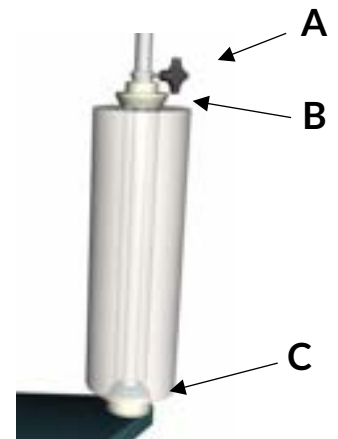

Fig. 3-4
Step 1 - Loosen fastening screw "A" and take off roll holder "B". (See Fig. 3-4)
Step 2 - Center the film core over the film shaft and lower onto the lower orientation plate "C" of the film shelf. (See Fig. 3-4)
Step 3 - Mount roll holder "B" and re-tighten fasteningscrew "A". (See Fig. 3-4)